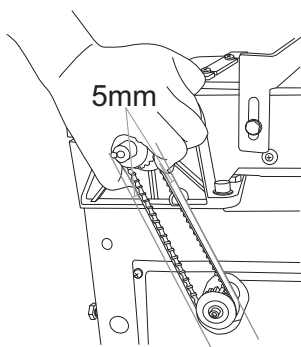

Fig. 45
- > The correct belt tension is shown in Fig. 45, with a firm pressure you should be able to squeeze the belt 5mm on each side. Do not over tighten as this will damage the motor bearings and belt. The belt should not be slack as it may run off the pulleys during use.